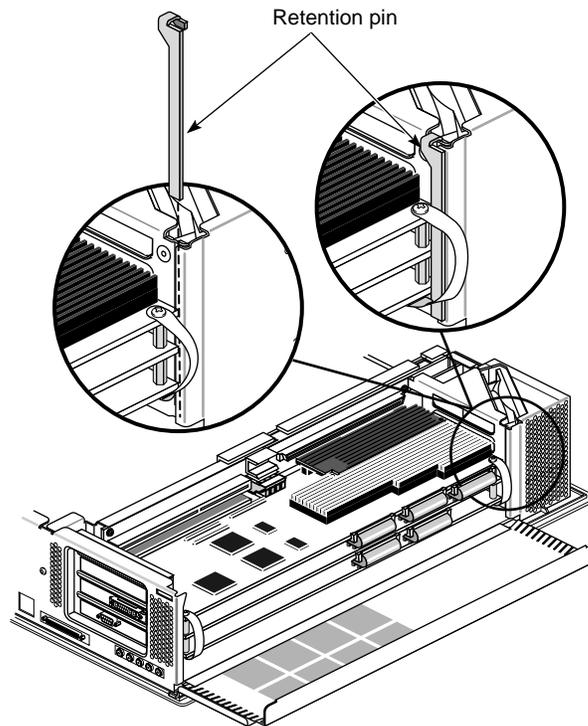

Figure 1-10 Removing the Retention Pin
4. Remove the retention pin that secures the graphics board set, as shown in Figure 1-10.